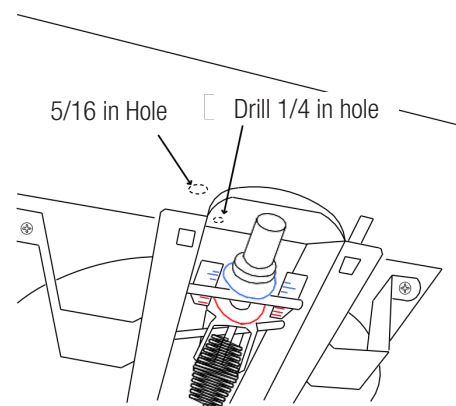

Fig. 2
3. Drill a 1/4in hole in the top of the scoop (see Figure 2).